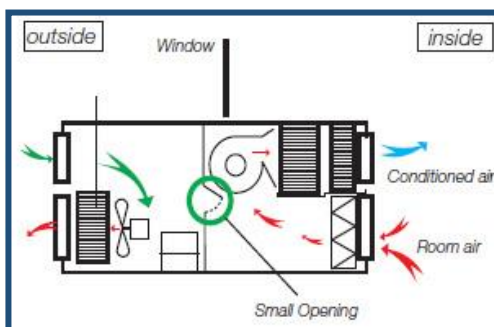

Fig3a. Window or split-type AC — not a good ventilator
- Both window-type and split-type air conditioners are not effective ventilation systems, as they are designed to condition temperature and humidity of recirculated air primarily. Most window-type air conditioners are equipped with vent valve (Fig 3a), which is recommend to be opened at any times. (Note: The vent valve can provide minimal amount of fresh air only, which cannot meet the fresh air requirement in the premises);